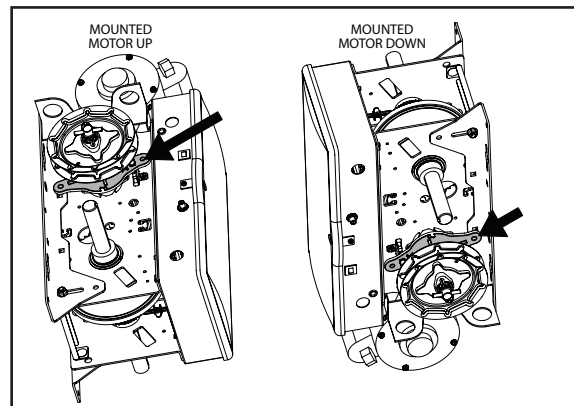

Figure 12
- With operator installed motor **DOWN**, attach hoist cable to cam arm hole closest to mounting plate. **Fig. 12.**
- With operator installed motor **UP**, attach hoist cable to cam arm hole closest to electric box. **Fig. 12.**